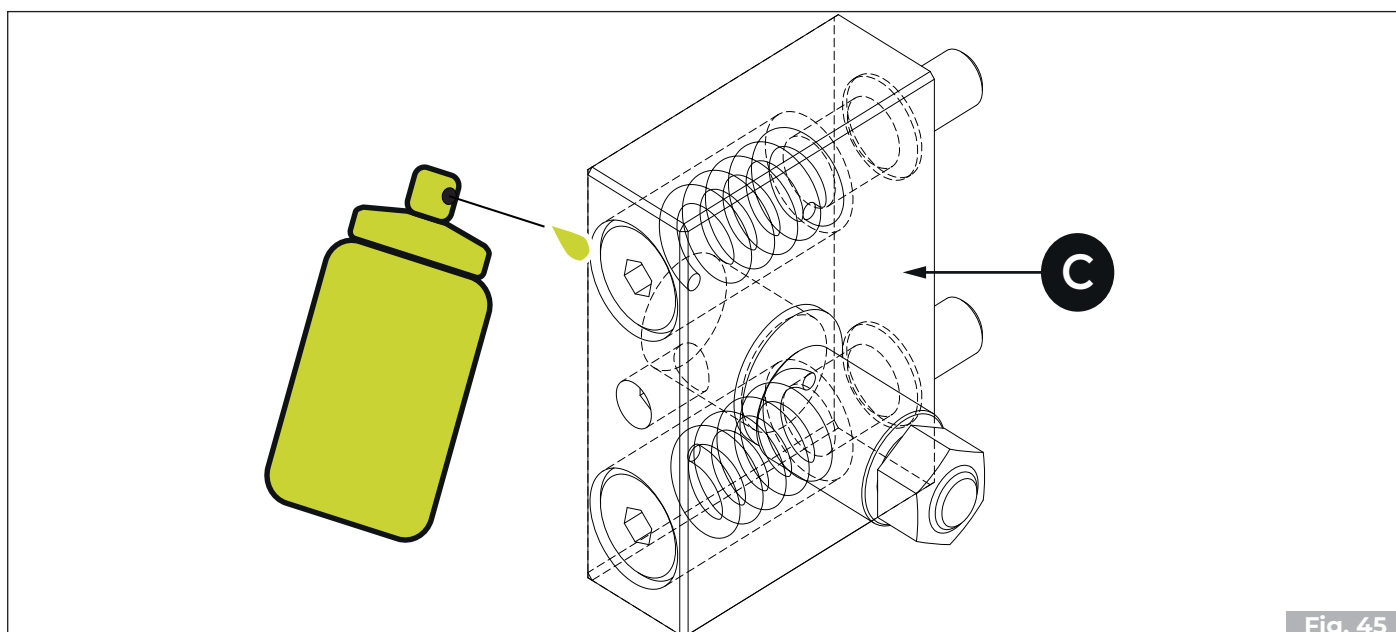

Fig. 45
Vacuum the ash accumulated in the burn pot (**Fig. 45**).
In order to guarantee the correct and safe operation of the fire box door, it is necessary to lubricate the springs of the closing mechanism. Inside the block (C), use spray lubricant around the screw head so that the lubricant reaches the spring. (**"Fig. 45"**)